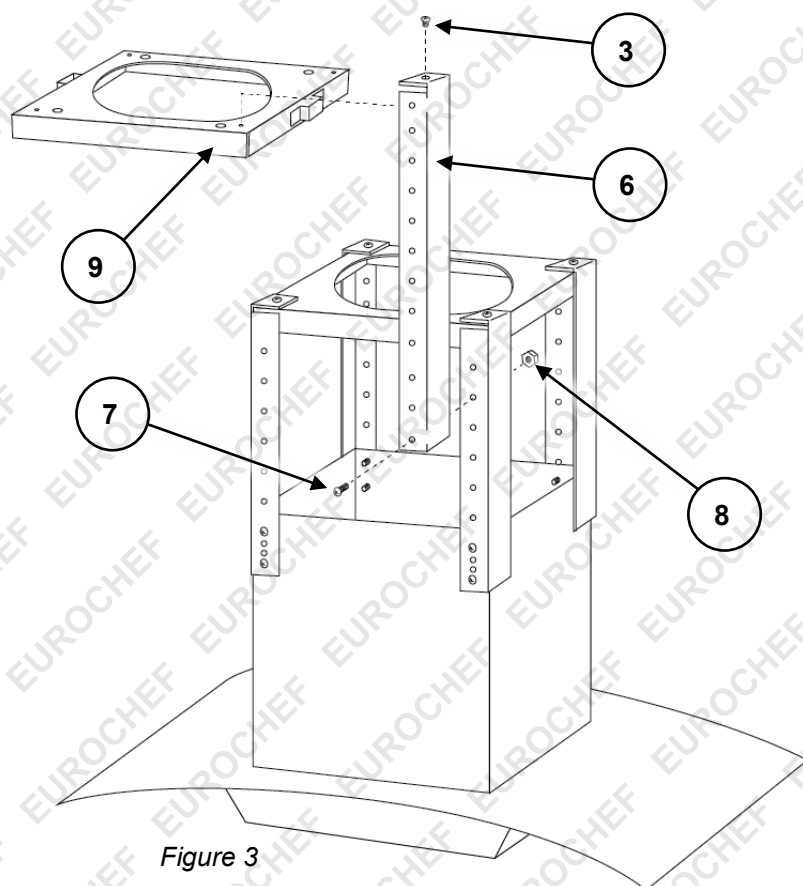
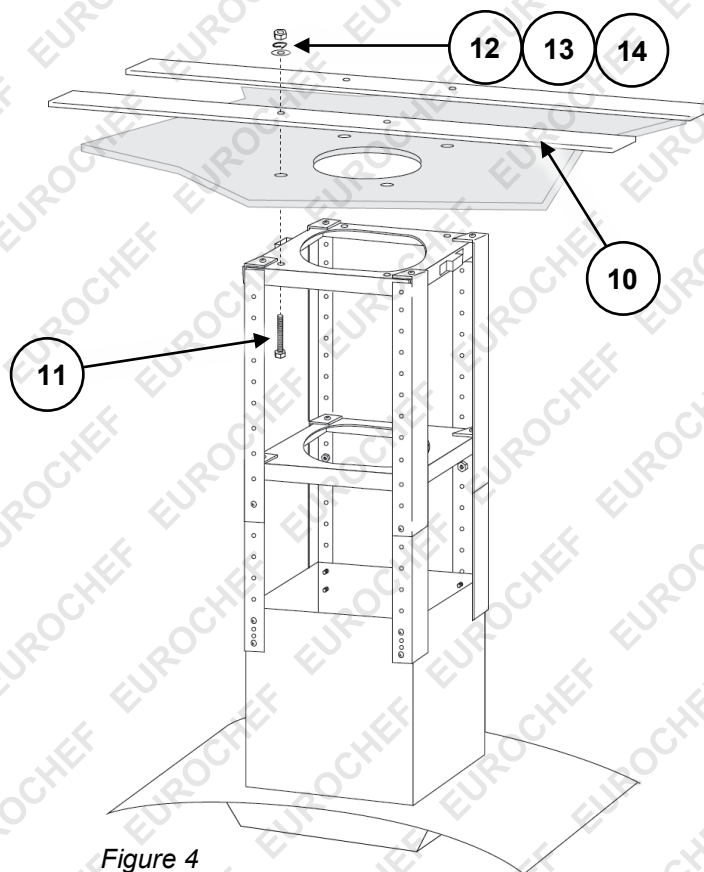

Figure 3
Figure 4
6. Refer to *Figure 3*. Attach the 4 long hanging brackets (6) to the hanging brackets assembled in step 5 using 4 M5x12 screws (7) and nuts (8). Position the long hanging brackets so that the overall length of the flue provides the correct distance between the cooktop and range hood.
7. Attach the ceiling mounting bracket (9) to the top of the long hanging brackets using 4 M5x8 screws (3). The ceiling mounting bracket sits on the inside of the hanging brackets.
8. Refer to *Figure 4*. Attach the partly assembled range hood to the ceiling. Use the supplied mounting rails (10) or some other method that is capable of holding at least 35kg in weight. If using the mounting rails, drill 2 8mm holes for the mounting bolts, then place the range hood up against the ceiling and secure it with 4 M8x50 bolts (11), flat washers (12), lock washers (13) and nuts (14).